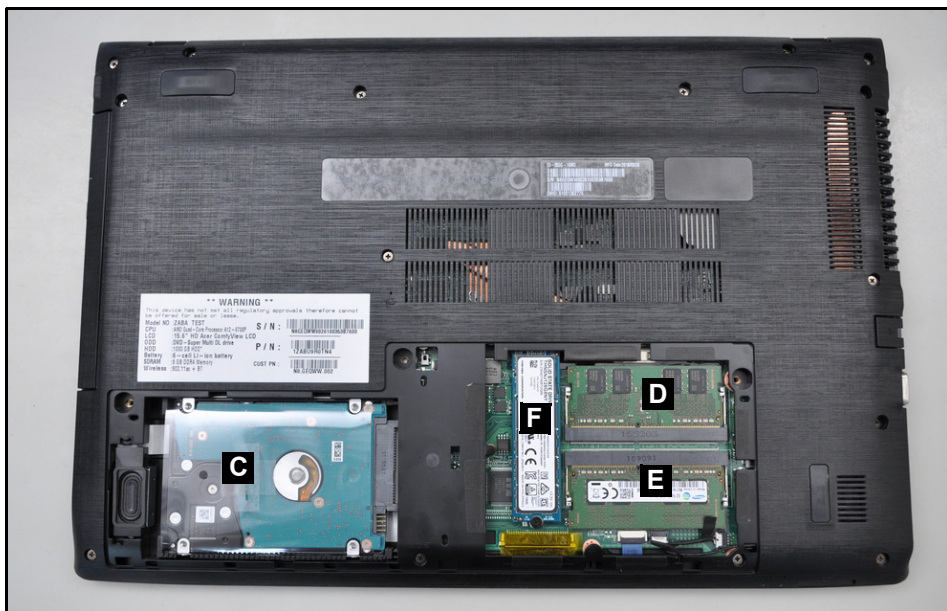

Figure 3-9. Component Locations
1. Find the HDD module (C) in the system (Figure 3-9).
1. Find the DIMM (D) (E) in the system (refer to Figure 3-9).
1. Find the SSD (F) in the system (Figure 3-9).